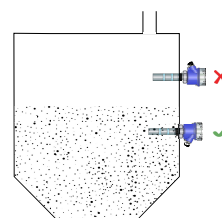

Figure 45: Cable Gland Arrangement
- To prevent the ingress of moisture and water seepage in side mounting position, the cable entries should always point downwards as shown in Figure 45.